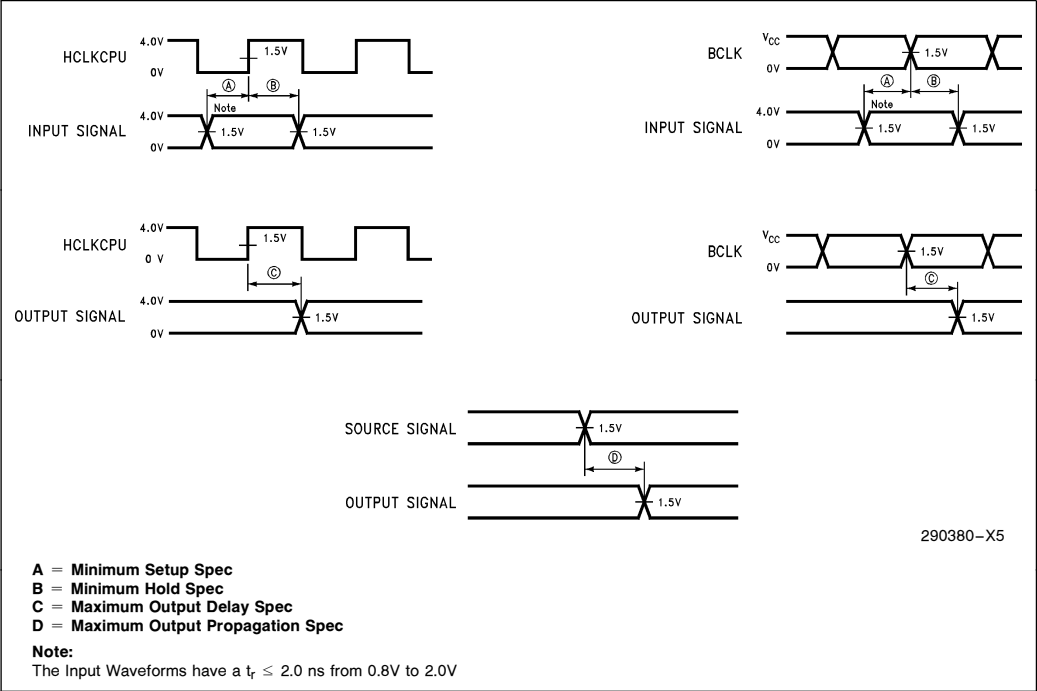

Figure 8-1. A.C. Specification Waveforms
A.C. specification measurements are defined in Figure 8-1. Input levels must be driven to the voltage levels indicated in Figure 8-1, when A.C. specifications are measured. The output capacitive test loads are shown in Section 8.2. 82358DT output delays are specified with minimum and maximum limits, measured as shown. 82358DT input setup and hold times are specified as minimums, defining the smallest acceptable sampling window. Within the sampling window, a synchronous input signal must be stable for correct 82358DT operation.